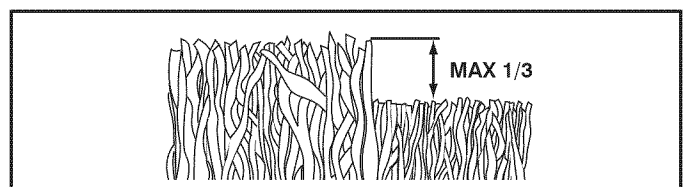

FIG. 15
- For best results, adjust the lawn mower cutting height so that the lawn mower cuts off only the top one-third of the grass blades (See Fig. 15). If the lawn is overgrown it will be necessary to raise the height of cut to reduce pushing effort and to keep from overloading the engine and leaving clumps of mulched grass. For extremely heavy mulching, reduce your width of cut